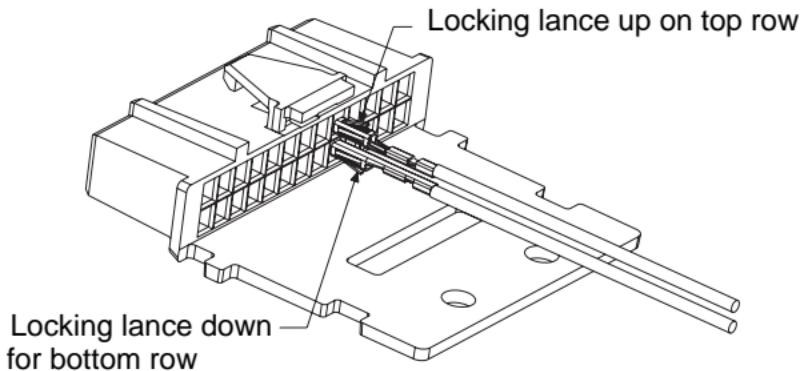

Figure 2. Terminal Orientation
7. Insert the contacts into pin locations #9 and #10 on the accessory connector as shown in Figure 2.